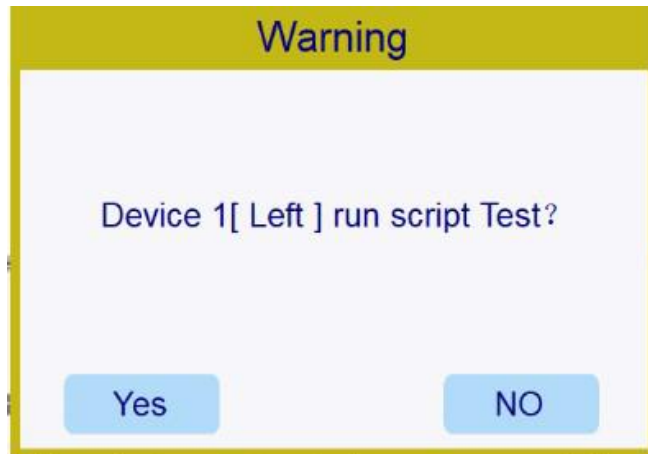

Figure 6-6 Run Confirmation
- The system software will pop up a interface as shown in figure 6-6 based on the read information to remind the user to confirm the program that needs to be run, such as "Is device 1 sure to execute the program Test?" ;
If the user needs to implement the whole process of automation, after scanning, the window will prompt that "Device 1 run script? XXXX?". XXXX stands for the program name, as shown in figure 6-6 (The sample drawing is only an example while the specific program name refers to the actual running program.). Click "Yes" to start the whole process of automation and "No" to stop the operation.